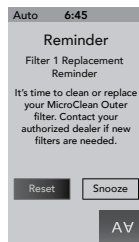

Figure 15.0d
22. MicroClean Outer Filter Reminder: This message will appear when the filter reminder time has expired (Figure 15.0d). Remove the MicroClean Outer filters for cleaning or replacement.